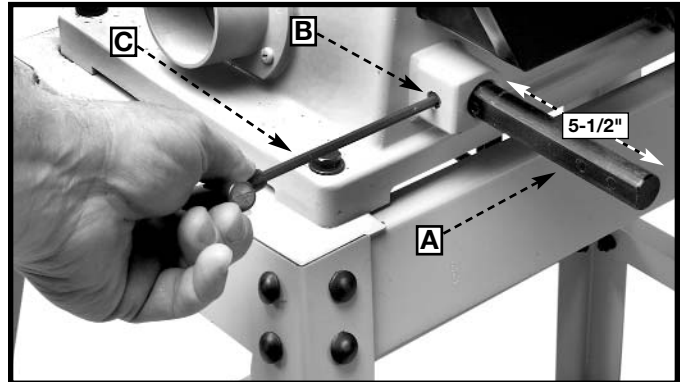

Fig. 14
1. Insert the support rod (A) Fig. 14 into the hole in the side of the sander until the rod (A) extends approximately 5-1/2". Align the flat on the rod (A) with the screw (B). Tighten the screw with the hex wrench (C).